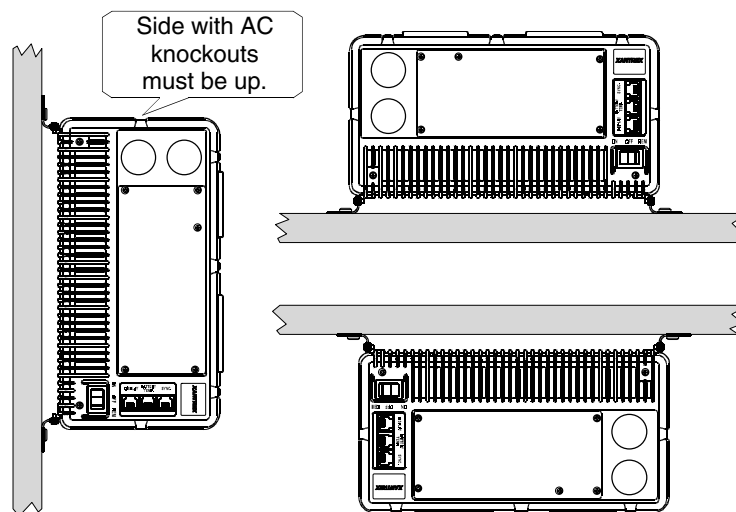

Figure 9 Approved Mounting Orientations
3. Select an appropriate mounting location and orientation. (See Figure 9.)
- In a horizontal position on a vertical surface with the AC knockouts at the top as shown in Figure 9.